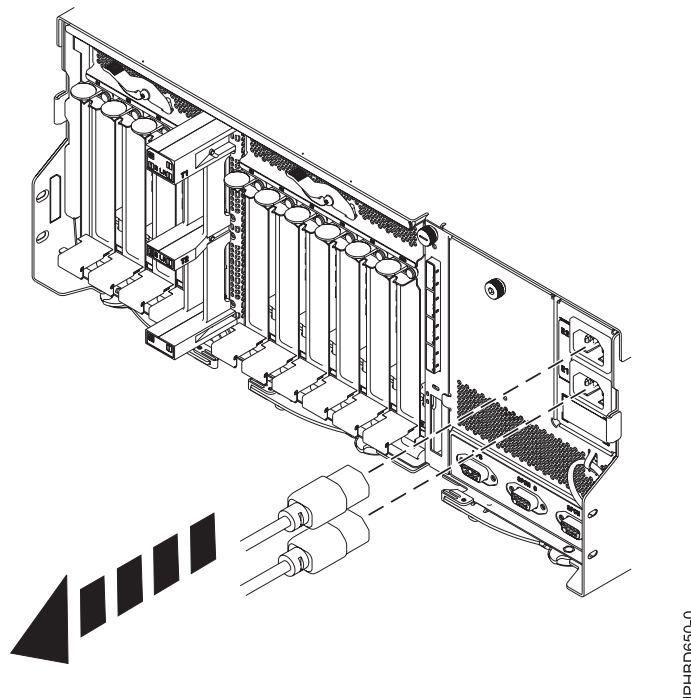

Figure 25. Disconnecting the power cables from the rear of an expansion unit
5. Disconnect both the power cables at the rear of the expansion unit, as shown in Figure 25.